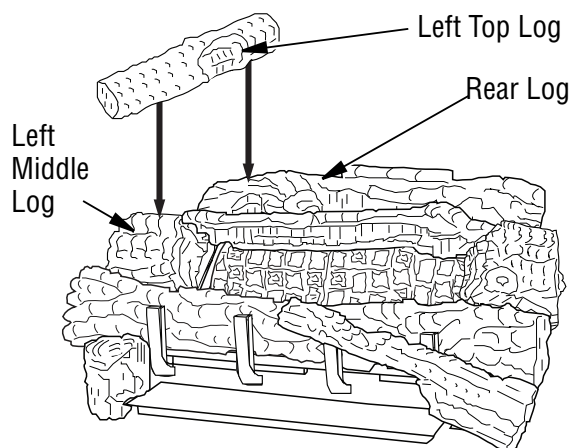

Figure 37 - Installing Left Top Log
10. Place the left top log (D-046) onto the rear log and the left middle log. Make sure to place the projection on the bottom of the left top log into the recessed areas on the rear and left middle logs (see **Figure 37**).